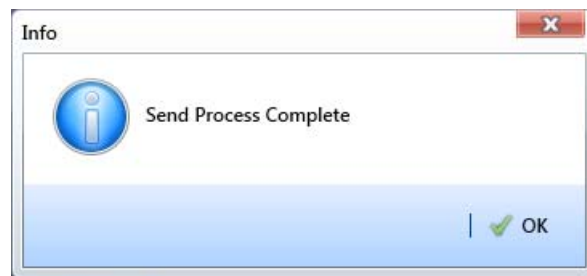

Figure 8-39. Send Process Complete
- 28 Click  **OK** when the message *Send Process Complete* displays (Figure 8-39). PCS Axis sends the survey file to the *PSData* folder on the Allegro.